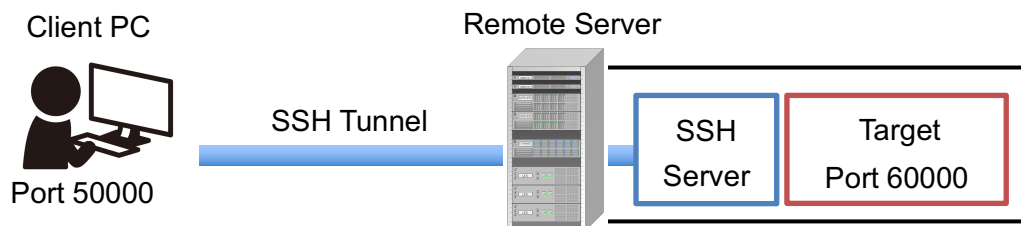

Figure 5.2-1 Abstract of local forward
- 3) In the **Select Direction for Forwarded Port** dialog, select **Forward Local Port** (it means the local forwarding) and enter the port number to be used for PBVR Client, which is corresponds to the port 50000 in Figure 5.2-1. In the **to remote machine** text field, enter the domain name or the IP address of the server, which is corresponds to the target address in Figure 5.2-1. In the **port** field, enter the port number to be used on PBVR Server, which is corresponds to the port 60000 in Figure 5.2-1. Click on **OK** to complete the setup of port forwarding.
- 4) Connect to the server. Select **File > New Connection** from the menu bar. In the **New Connection** panel, enter the host name of the serve which is corresponds to the remote server address in Figure 5.2-1, and click on **OK**. In the **SSH Authentication** panel, enter the user name and passphrase, or specify the location of the private key file, and click on **OK**.